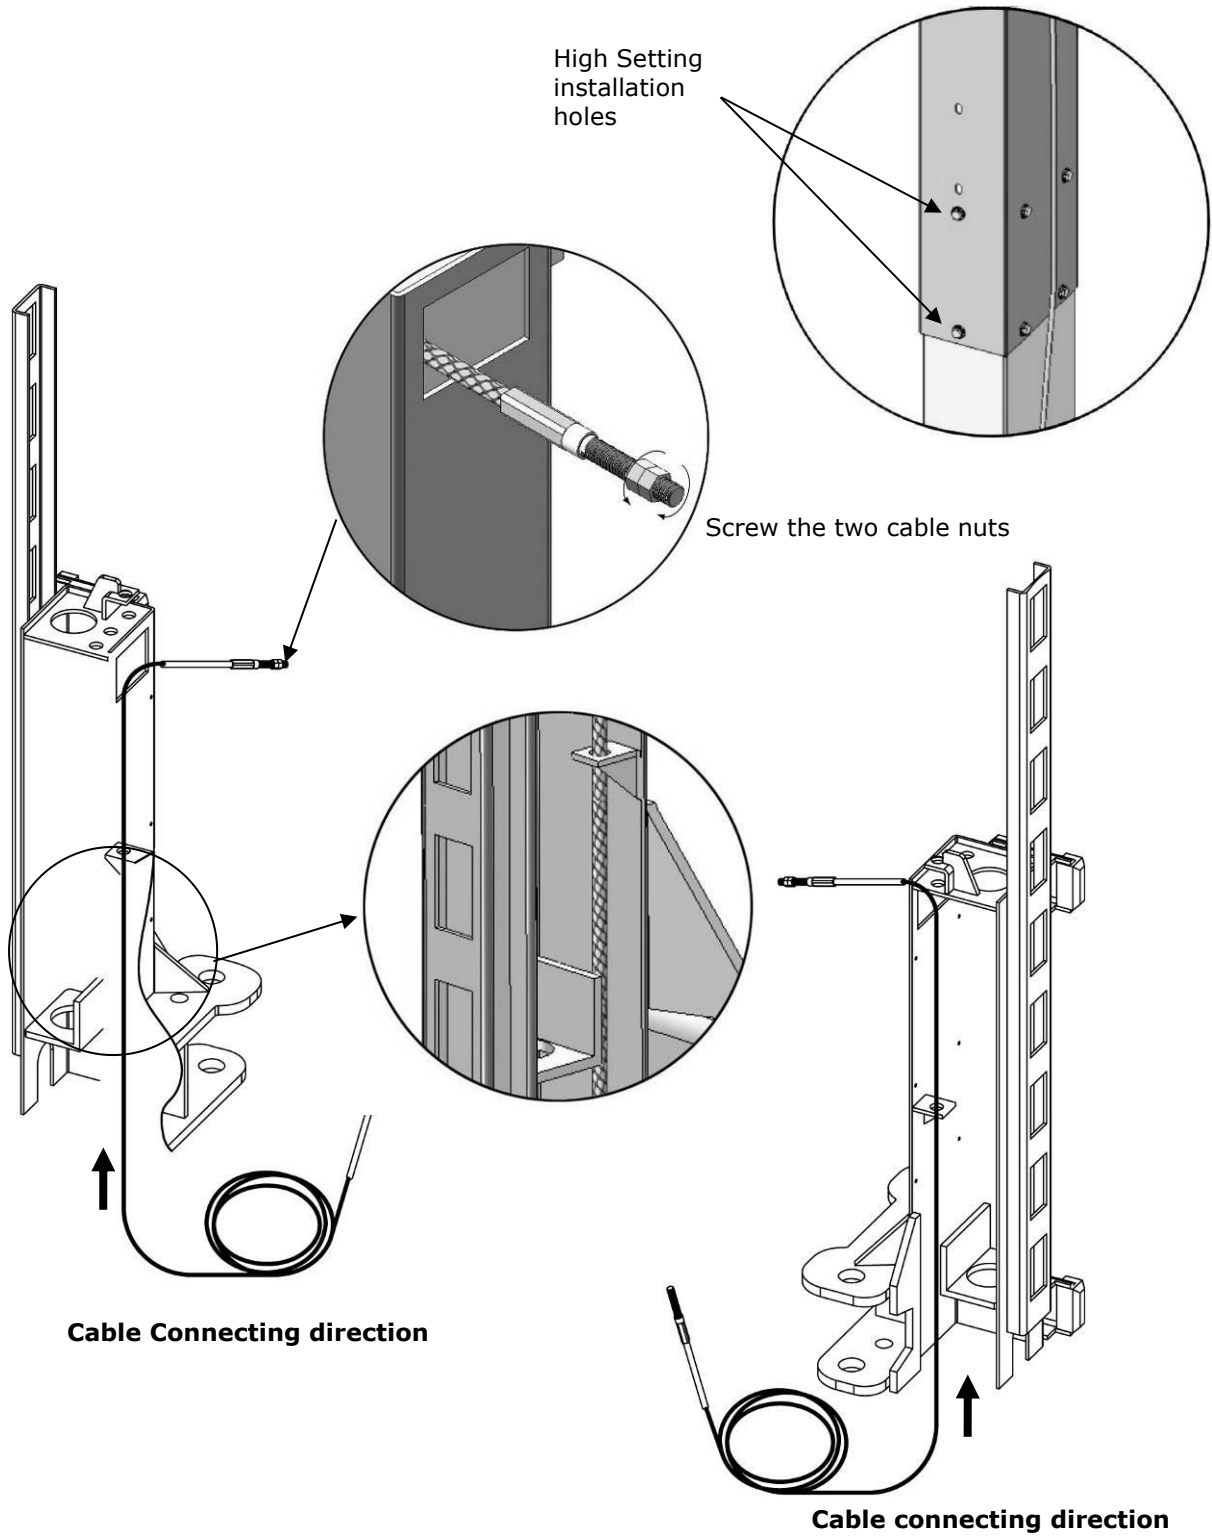

Fig. 26
2.1. Cable pass through from the bottom of the carriages and be pulled out from the open of carriages, then screw the two cable nuts (See Fig. 26).